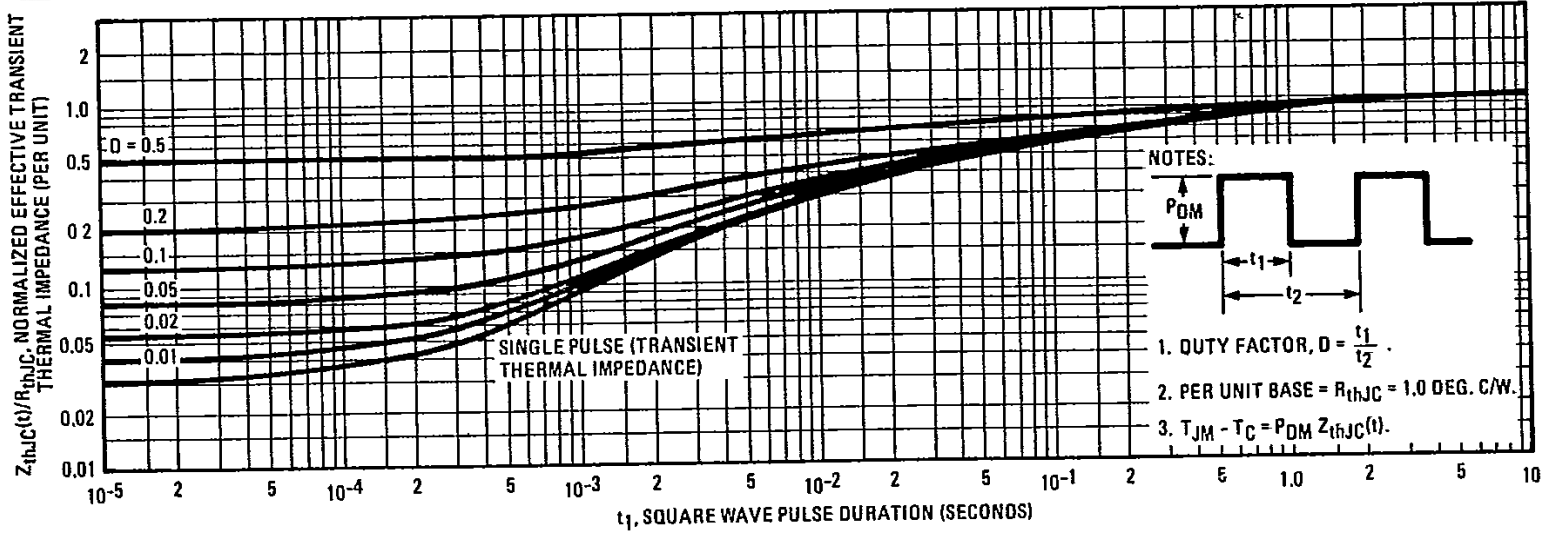

Fig. 5 – Maximum Effective Transient Thermal Impedance, Junction-to-Case Vs. Pulse Duration
- ①  $T_J = 25^\circ\text{C}$  to  $150^\circ\text{C}$ .
- ② Pulse Test: Pulse width  $\leq 300\mu\text{s}$ , Duty Cycle  $\leq 2\%$ .
- ③ Repetitive Rating: Pulse width limited by max. junction temperature. See Transient Thermal Impedance Curve (Fig. 5).
- ④  $K/W = ^\circ\text{C}/W$